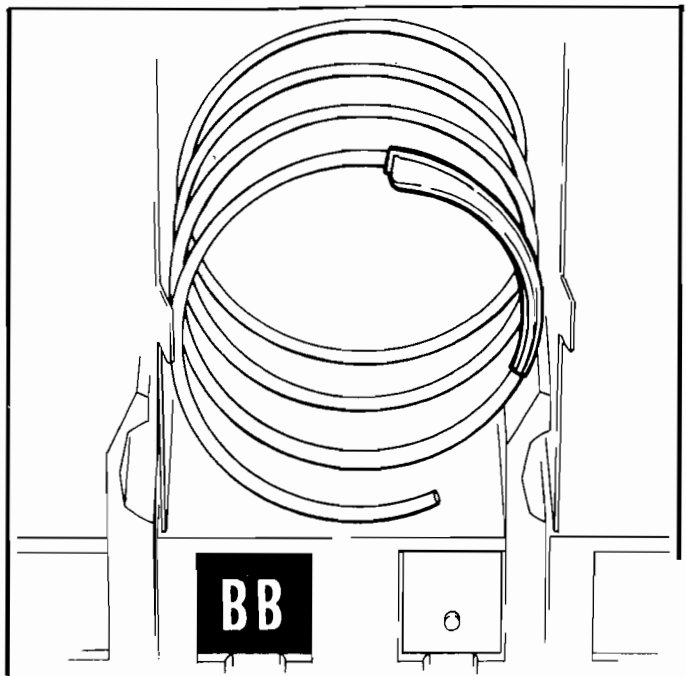

Figure 7. LOCATION OF PRODUCT PUSHER ON SPIRAL.
8. **PRODUCT PUSHER:** Some products used in the 8-selection shelves may require the addition of a product pusher (see page 19, item 21). This plastic part is designed to push the top of the product forward while it is vending, helping it fall from the shelf. It can also be used with product that has the wrapper end flap on the outside of the package. In this case, the pusher prevents these products from hanging on the spiral by spreading the flap. The pusher is installed approximately 210 degrees from the front end of the spiral with the tab extending forward (see Figure 7). Locate the pusher in its proper position, hold it against the spiral wire and push the semi-circular part around the spiral wire. Do not use this pusher on all products as it is not needed with most products. If you experience any product vending problem, install a pusher on that spiral only and test vend several times to see if it eliminated the problem.